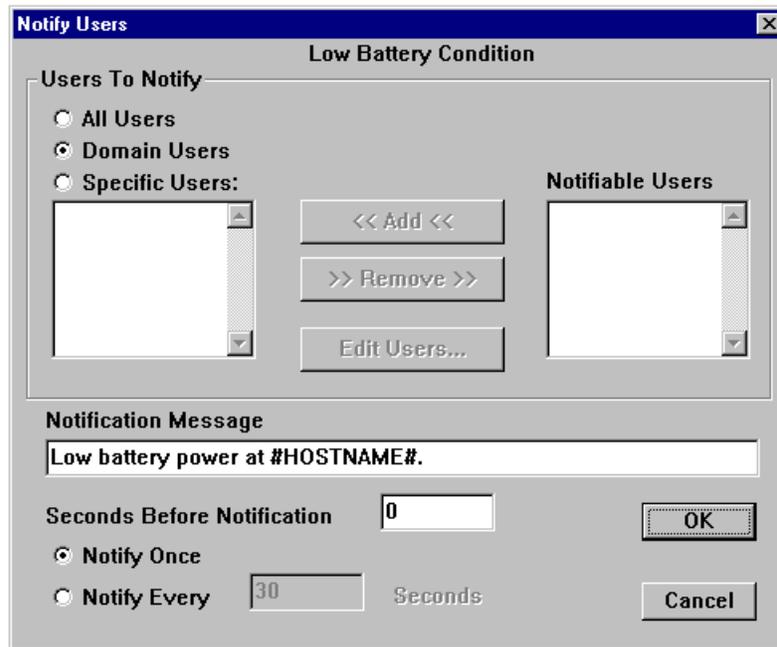

Figure 115. Setting the Options for “Notify Users”
3. Click on **Options** to the right of **Notify Users**. Figure 115 on page 156 appears.